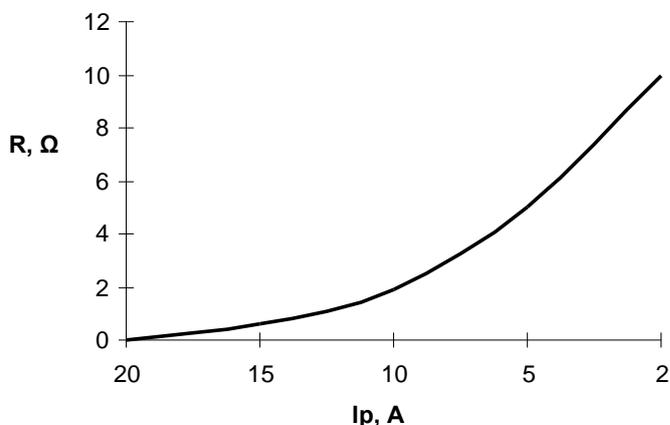

Figure 8 – Output pulse current versus gate resistor nominal
Gate resistors (Ron1, Ron2, Roff1 and Roff2) are necessary for maximum pulse current decrease. Resistor installing with any nominal is allowed, including 0  $\Omega$ . Resistor installing with different nominal is also allowed; for instance, in order to increase turn-on time of controlled transistor purposely to decrease voltage amplitude of inductive kicks. Output pulse current versus gate resistor nominal is shown at Figure 8.
- set up output pulse current by resistor Rg on(off) in compliance with Figure 8.